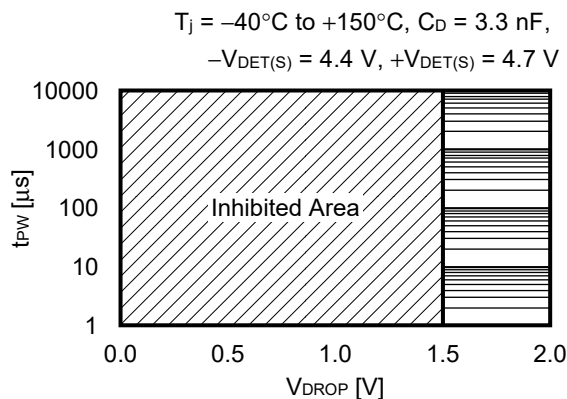

Figure 24
Figure 24 shows the relation between pulse width (t_{PW}) and V_{IN} lower limit (V_{DROP}) where a release signal can be output after the normal release delay time has elapsed when the V_{IN} pin voltage instantaneously drops during release delay time.
1. Figure 24 shows the input voltage conditions when a release signal is output after the normal release delay time has elapsed. When this is within the inhibited area, release may erroneously be executed before the delay time completes.
2. When the V_{IN} pin voltage is within the inhibited areas shown in Figure 24 during release delay time, input 0 V to the V_{IN} pin then restart the detector.